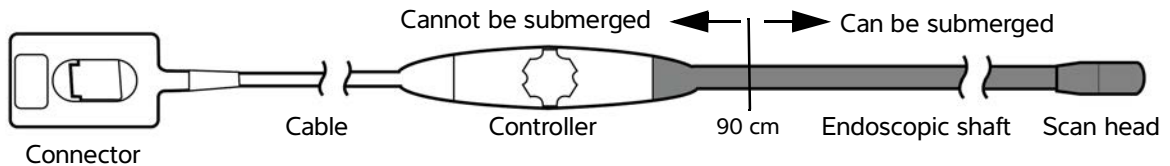

Figure 4-1 Transducer components
Some components of the TEEp transducer have different cleaning requirements and restrictions than others. The cleaning, testing, and disinfection procedures frequently refer to specific components of the transducer. See Figure 4-1 for a diagram of the transducer components.
- 3 Secure the control handle so it cannot fall into the cleaning solution, and immerse the endoscopic shaft and scan head in a plastic container filled with enzymatic cleaning solution up to the 90 cm mark (see Figure 4-1 on page 4-2).